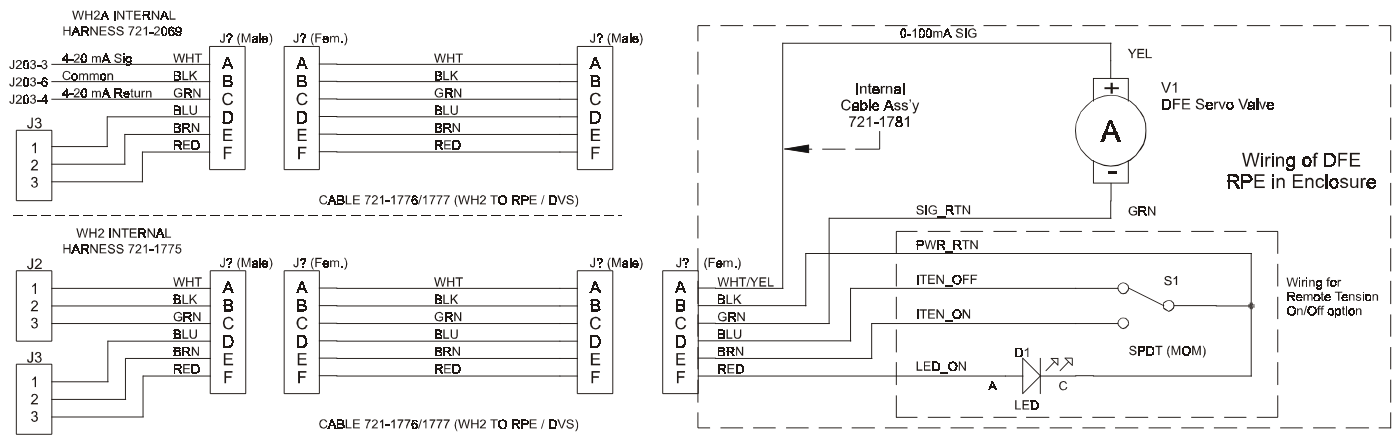

Figure 21 - REMOTE PNEUMATIC CONNECTIONS
- a. Make sure the pneumatic unit is mounted securely and that the connecting cable is attached to both the controller and the pneumatic unit as specified in section 2.3.2. See electrical connections in Figure 21.